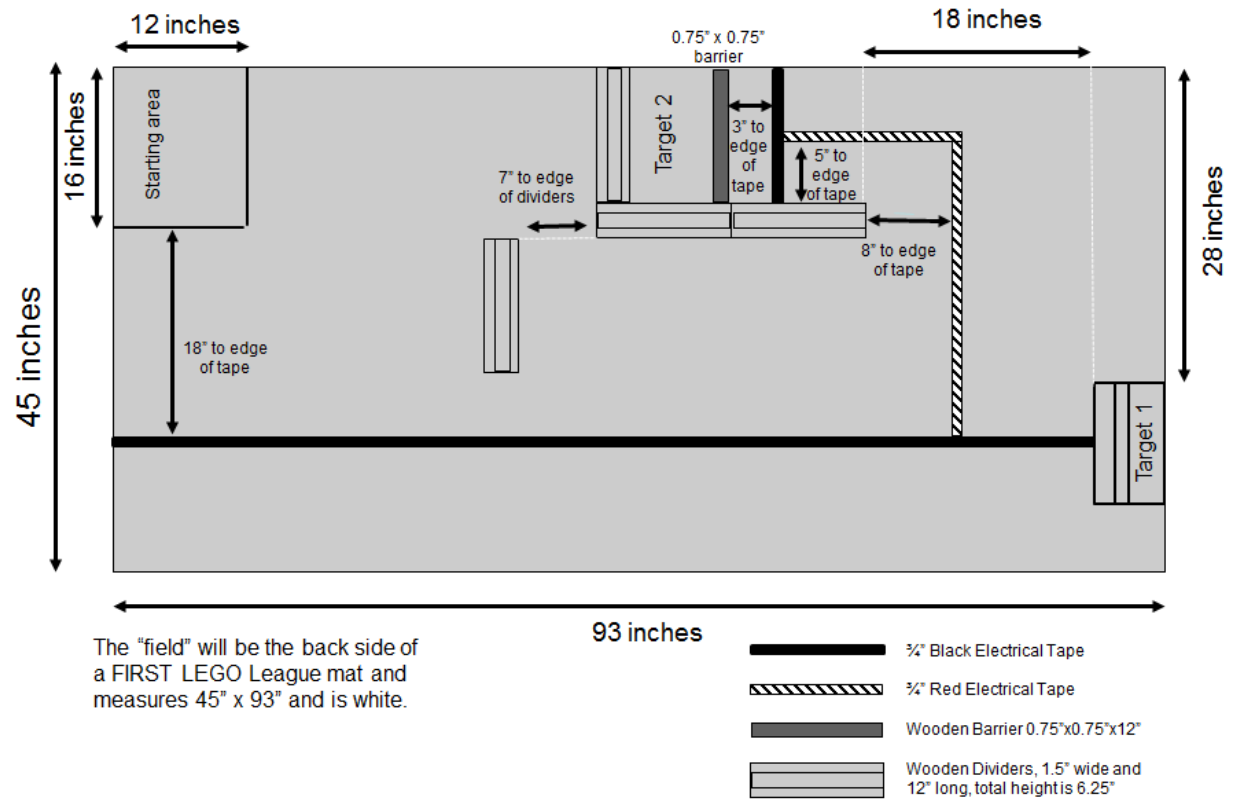

Figure 9 - Delivery Mission layout
- i) The course is laid out on a 93" x 45" field. We use the back side of an FLL playing field, but any smooth surface would work. (See Figure 9)